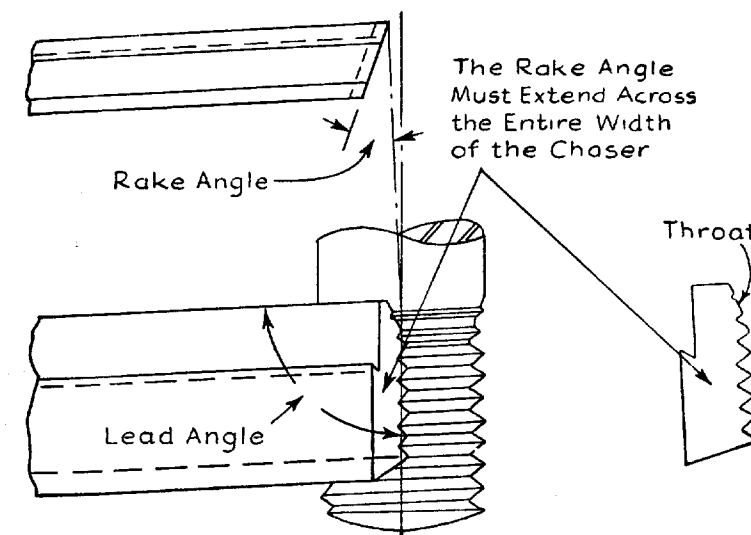

Figure 14—Chaser grind for cutting straight threads cut with lead screw feed
1. These are ground as in figure 14. The lead angle is